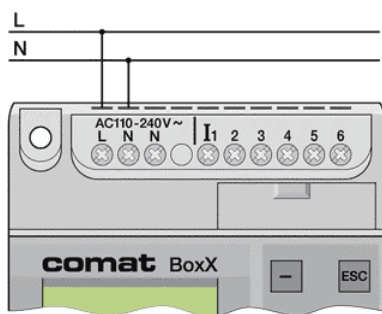

Fig. 2.5 AC power supply
3. Connection of power supply according for AC types Fig. 2.5 and DC types Fig. 2.6